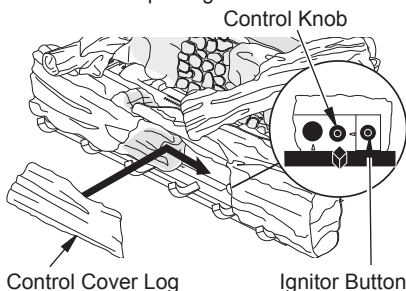

Figure 26 - Control Knob (Shown in the OFF Position) and Ignitor Button Location
3. Remove control cover log (see Figure 26).
13. Replace control cover log (see Figure 26, page 18).